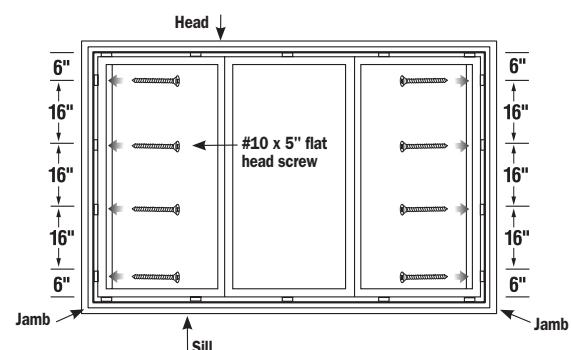

Figure 3
- Fasten the screws in as close as possible to the back side of real-wood mullion mounted on jamb boards. Make sure that you hit the stud with screw and not the sheathing or masonry surface of wall (Figure 3).